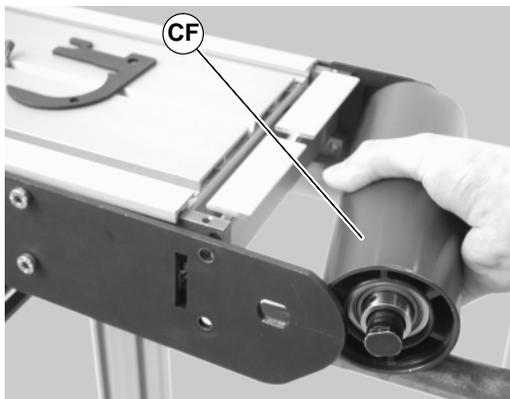

Figure 61
4. Slide the idler pulley assembly (CF of Figure 61) out of the headplate on the opposite side.